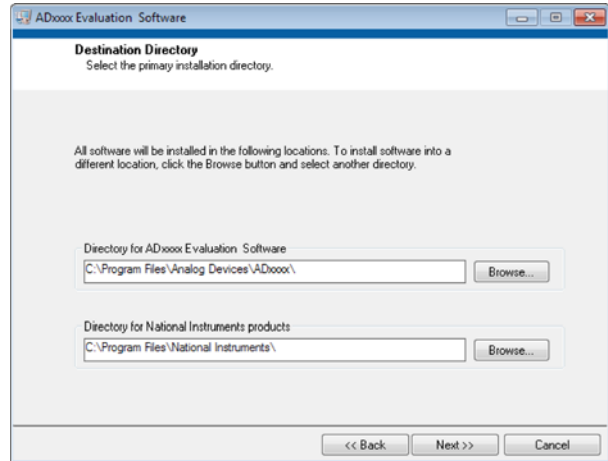

Figure 3. Destination Directory Window
4. Select a location to install the software and then click **Next** (see Figure 3).